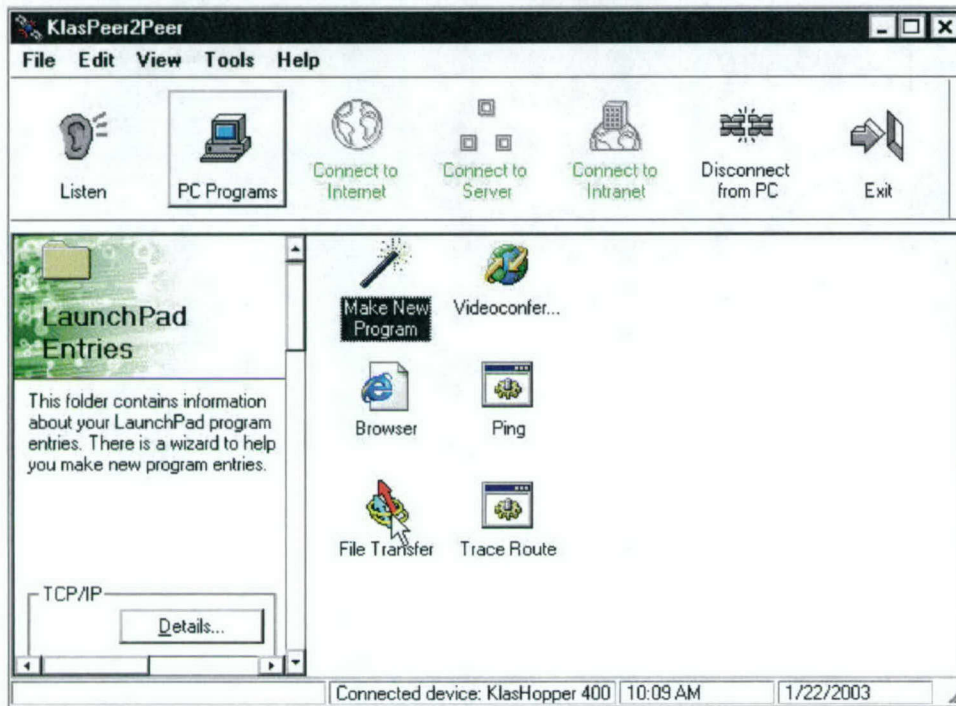

Figure 41. Selecting File Transfer icon
- g. On the next screen, double-click on the File Transfer icon. The icon is illustrated in Figure 41.